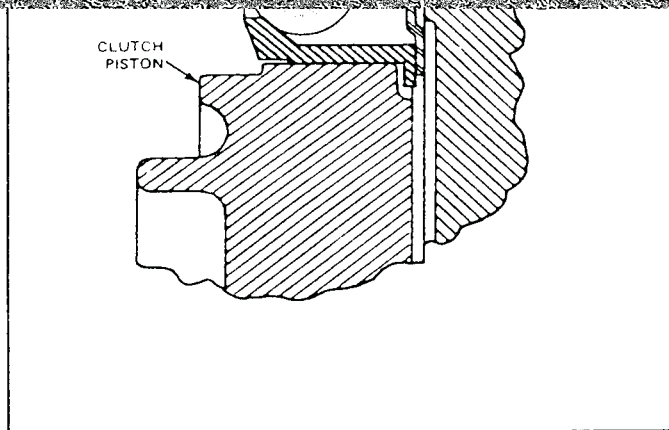

FIG. 29 Clutch Piston Check Ball
6. The clutch piston has a check ball similar to Fig. 29. Inspect the check ball for freedom of movement and proper seating.
2. Check the fluid passage in the clutch cylinder for obstructions. Clean out all fluid passages. Inspect the clutch piston for scores and replace if necessary. Inspect the piston check ball for freedom of movement and proper seating (Fig. 29). Perform the Direct Clutch Piston Check Ball Leakage procedure.